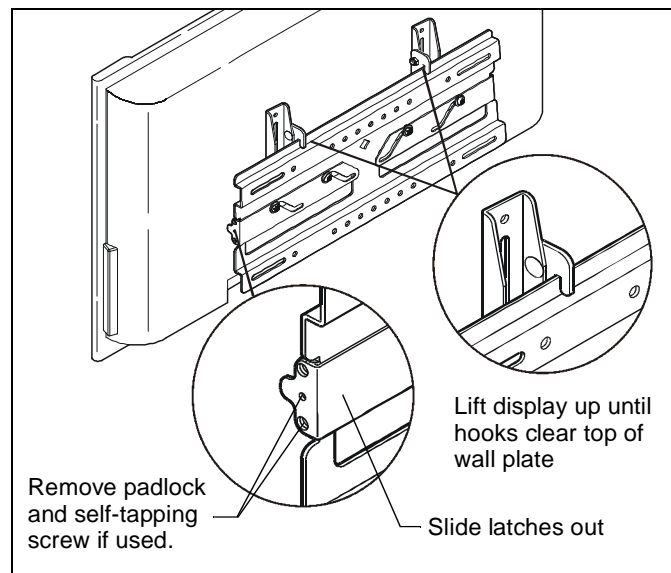

Figure 8
1. If applicable, remove the self tapping screws and/or padlocks from both sides of the wall plate. This hardware provides security. (See Figure 8)
2. Slide the security latches out on both sides to disengage the display from the wall plate. (See Figure 8)
3. With an assistant, lift the display up and off the wall plate to remove the display from the wall. (See Figure 8)